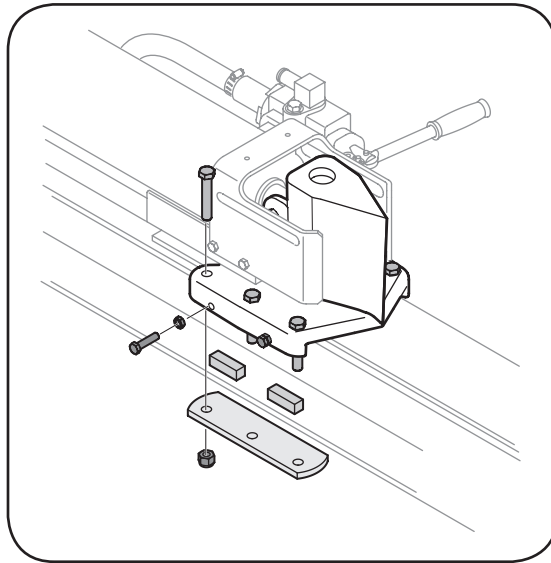

Figure 5-1
1. Loosen the jam nuts on the two adjustment bolts on the side of the wedge. See Figure 5-1.
1. Loosen the lock nuts under each back plate and slide the gibs out. See Figure 5-1.